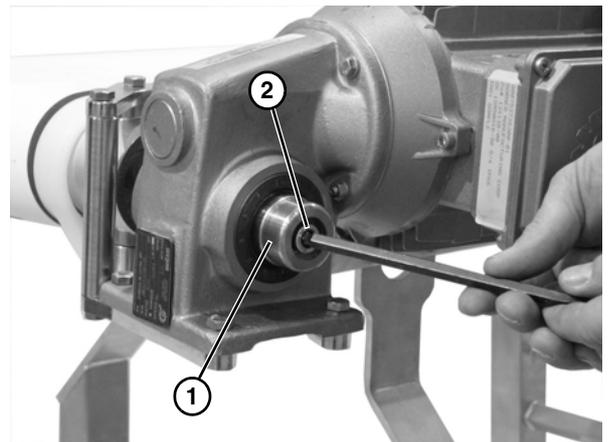

Figure 7
5. Attach the bore plug (Figure 7, item 1) and tighten the socket head screw (Figure 7, item 2). Snap cover onto bore plug (Figure 7, item 1).